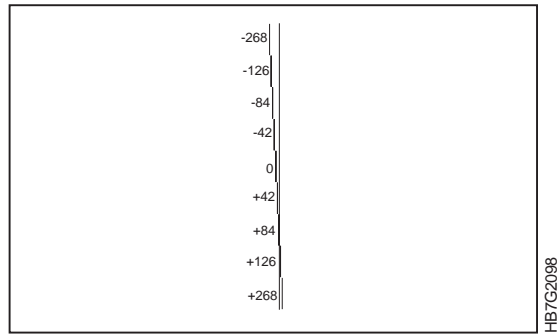

Figure 157. Vertical Control
- 1 Find the front-to-back registration area on the X-side of the page. The vertical control, as shown in Figure 157 on page 235, is to the left of the word “IBM”.